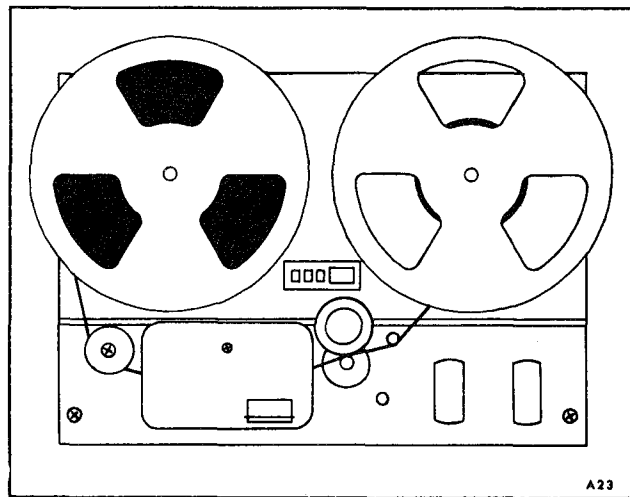

Figure 3-3. Tape Threading Path
3.9 TAPE THREADING (See Figure 3-3)
3.10 Thread the tape as shown in Figure 3-3, and anchor it to the takeup reel hub. Manually turn the takeup reel until the supply reel moves, to remove tape slack.